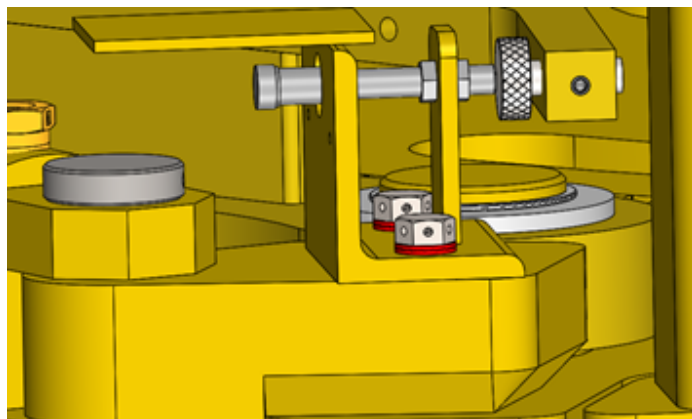

Figure 4: Sensor Installation
5. Install sensor through the bracket holes and tighten the nuts on the sensor around the mounting plate as shown in Figure 4.